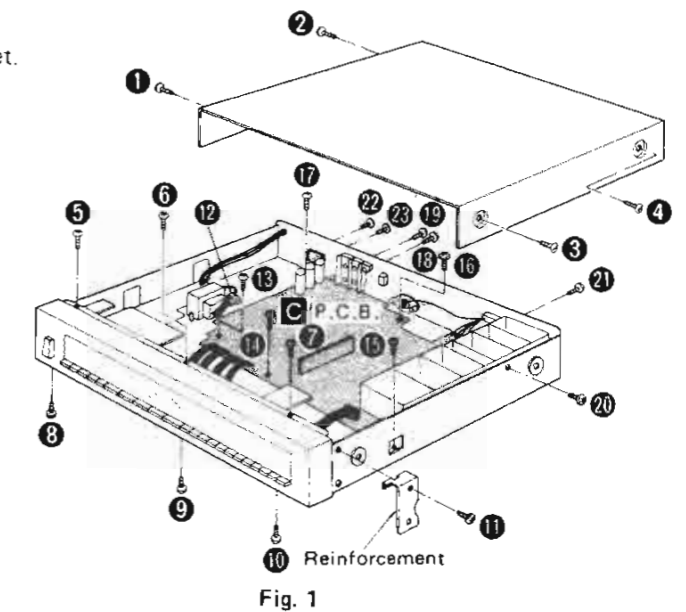

Fig. 1
Remove the 4 setscrews (1 ~ 4 in Fig. 1) of the cabinet.
2. Remove the 6 setscrews (5 ~ 10 in Fig. 1) of front panel and the setscrew (11 in Fig. 1) of reinforcement.
2. Remove the 5 setscrews (13 ~ 17 in Fig. 1) of the printed circuit board, 2 setscrews (18, 19 in Fig. 1) of the output terminal plate, and 2 setscrews (20, 21 in Fig. 1) of the shielding plate.
3. Remove the 2 setscrews (22, 23 in Fig. 1) of the allocation switch.
4. Cut off the lead clammer (12 in Fig. 1).